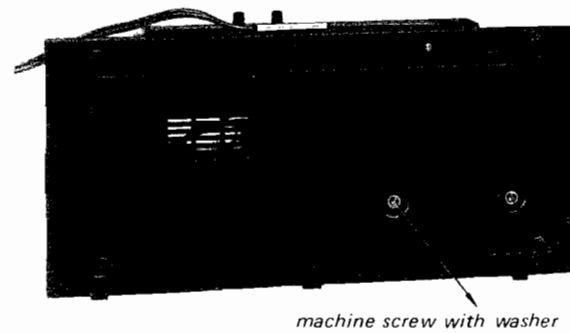

Fig. 2-7
2. Remove the two screws shown in Fig. 2-7.